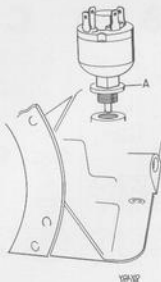

Fig. 4-83. Fitting starter inhibitor
2. Fit a new packing (A, Fig. 4-83) on the contact. Screw in the contact and tighten it with the spanner 2975. Hook up the electric cables.